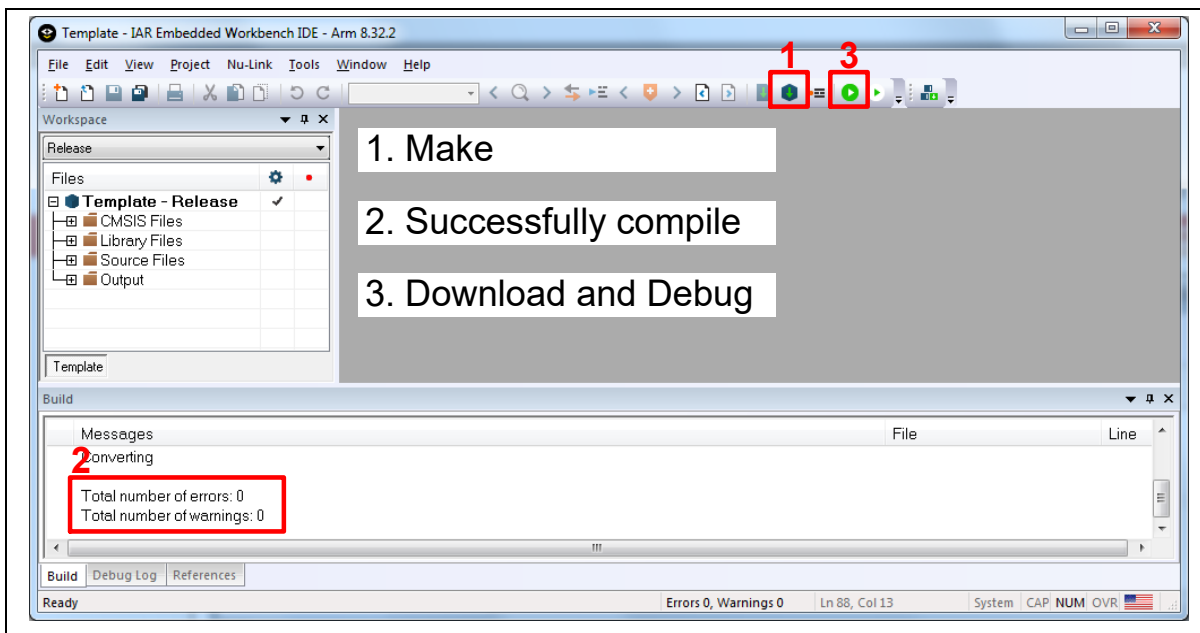

Figure 4-16 Compile and Download the Project
3. Make a target file as presented in Figure 4-16. After successfully compiling the project, download code to the Flash memory and enter debug mode.